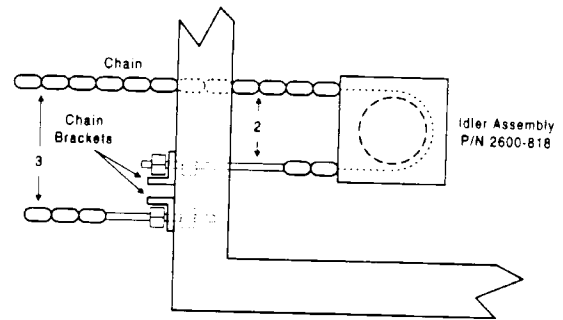

FIGURE 1.9.3A
1. Install an endless idler assembly (p/n 2600-818) at the gate opening between the gate and fence (figure 1.9.3A & C). Note that the chain is routed between the fence and the gate in this type of installation.
2. Secure the chain brackets to the gate as shown in figure 1.9.3A. The chain brackets should be attached to the gate frame so that they are approximately one (1) inch apart.
4. Attach the chain to the chain bolts using the master links supplied, then attach the chain bolts to the chain brackets using the hardware supplied (figure 1.9.3A). Make any adjustments to the chain length at this time.
5. Adjust the chain bolts to tighten the chain. The chain should sag no more than one (1) inch per 10 feet of travel. Do not over tighten the chain.